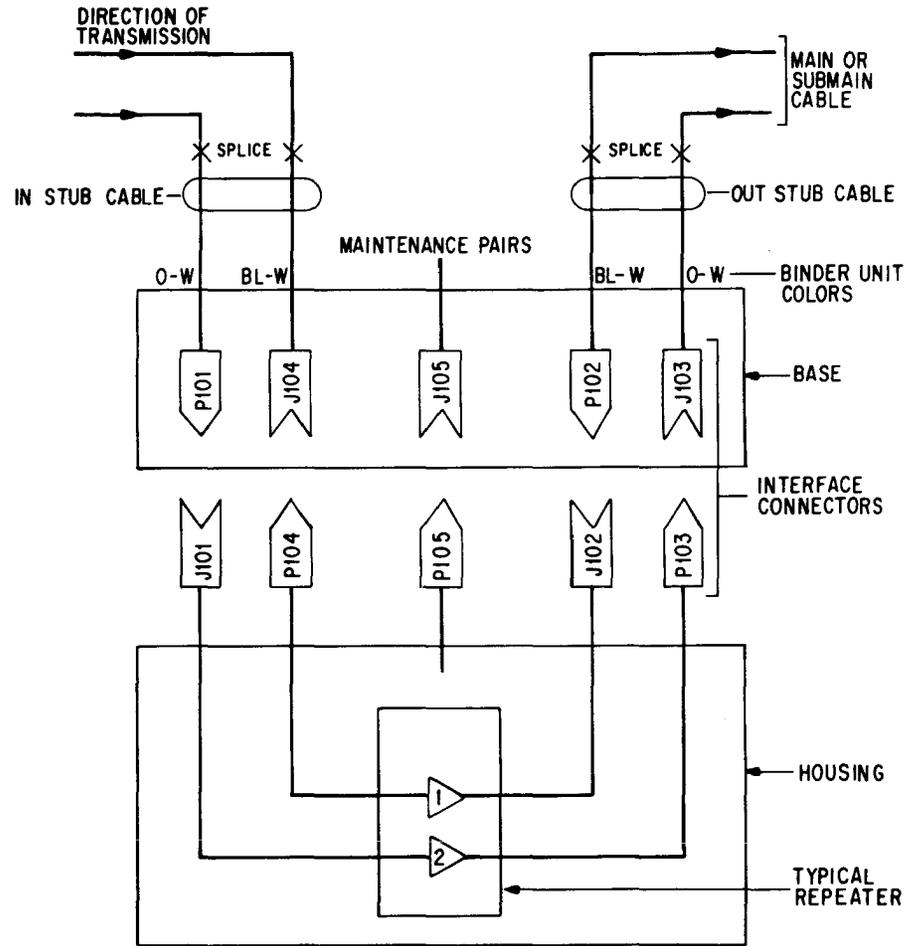

Fig. 22—Splicing for T1C Unidirectional Operation (Dual Stubs)
**4.04** Splice the stub cable to the main cable as outlined in Tables D and E and Fig. 22, 23, 24, and 25 using 710-type connector as outlined in Section 632-205-220. If the maintenance pairs for TIC and
**6.03** Using an L connector presser, mate the base and housing connectors according to one of the arrangements indicated in Fig. 22, 23, 24, and 25.